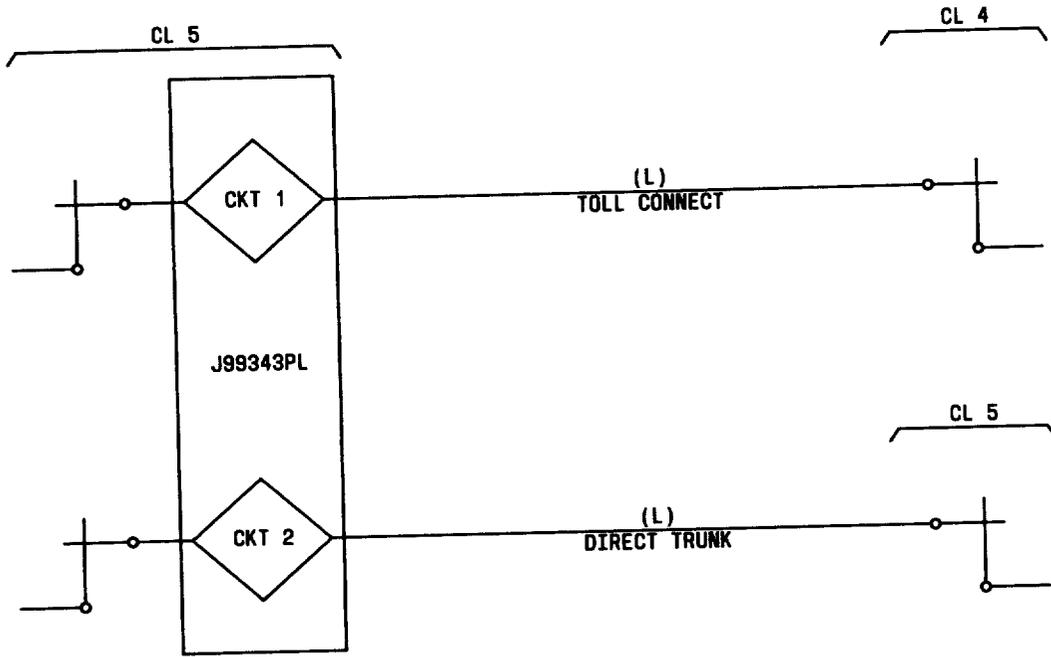

Fig. 7—Typical Applications
5.01 The J99343PL (L1 and L2) dual terminal repeaters are recommended for message service application or message trunk services (MTS) only (not special services). Two typical applications are toll connecting trunks to class 4 or higher offices and direct trunks between class 5 offices as shown in Fig. 7.